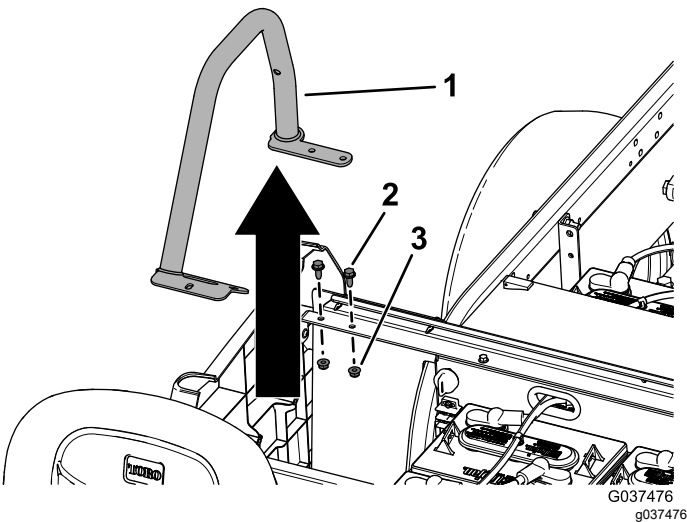

Figure 6
2. Remove the 2 screws (5/16 x 3/4 inch) and 2 flange nuts (5/16 inch) from each armrest, and remove the rear armrests (Figure 6).